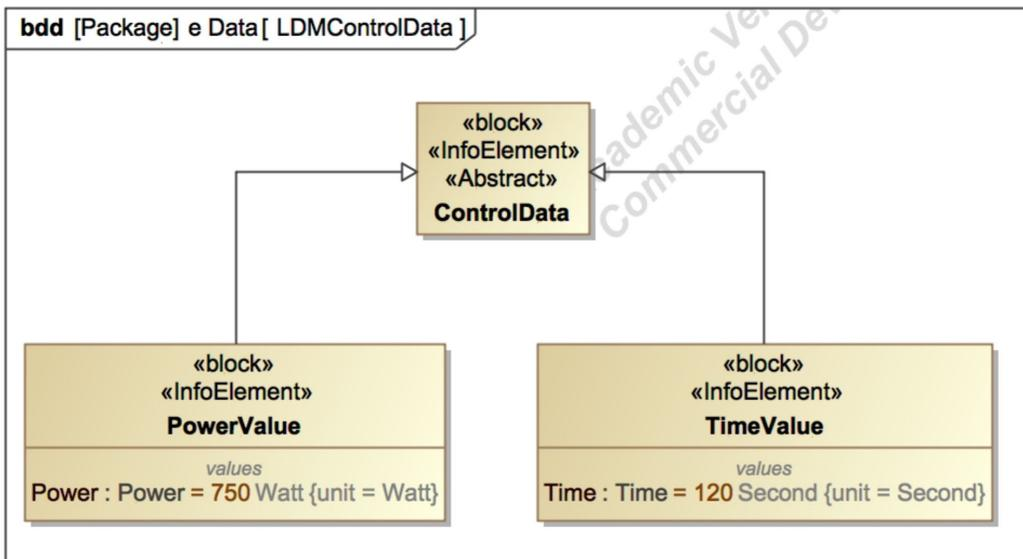

Figure 24. Logical Data Model with System Data Classes (Blocks)
- C. Fig. 24 gives an LDM example in which the Control Data Foundation Class is specialized into the two specific parameters that control oven operation: power level and cooking time. These are defined as Value Properties (Values) and given default numbers, which can be changed in operation.